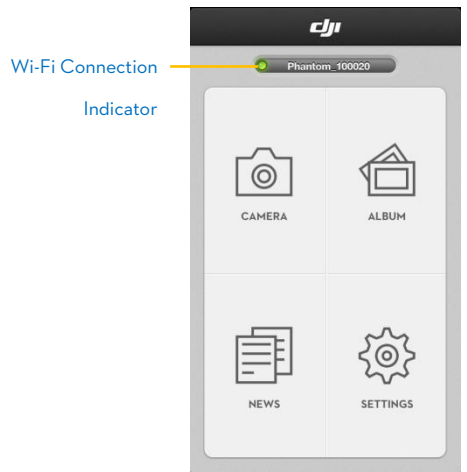

Fig.2
4. (Fig.2) Run the DJI VISION App on your mobile device which will indicate the current Wi-Fi connection status on the main menu. The Wi-Fi connection indicator will turn solid green which means the connection is good.